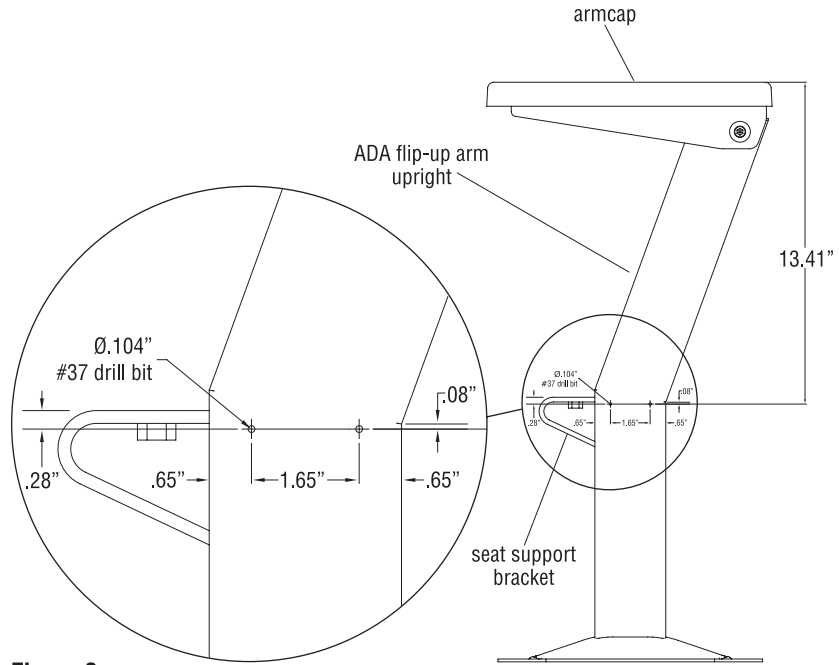

Figure 9
1. Begin row marker installation by first reviewing the Figure 9 drilling diagram. Locate the top of the armcap and take care to measure down 13.41" from the top of the armcap, to the side of the upright at the location as illustrated (Figure 9).
2. At 13.41" down from the top of the armcap, follow the diagram dimensions and mark two drilling locations at 1.65" apart to be horizontal with the top of the seat support bracket. Use a center punch to accurately mark drilling locations, then drill two marker mounting holes using a #37 drill bit (Ø.104" dia.) (Figure 9).